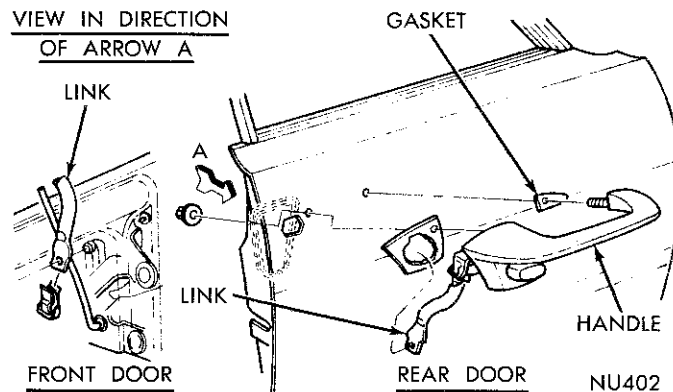

Fig. 29—Outside Door Handle
- (1) With door glass in up position, remove handle attaching nuts from mounting studs (Fig. 29) and link from handle to lock.
- (2) Lift handle up and remove from door.
- (1) With door open and glass in up position, remove link retainer at handle connector (Fig. 29).
- (2) Depress outside handle release button and remove link from handle connector.
- (3) Remove handle to door nuts.